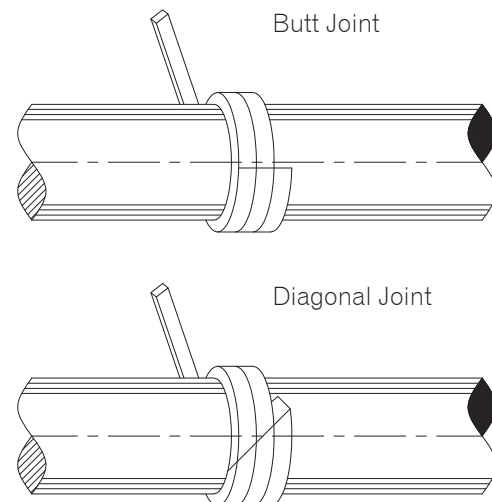

Fig. 9
3. When using coil or spiral packing always cut the packing into separate rings. Never wind a coil of packing into a stuffing box. Rings can either be cut with butt (square) joint or diagonal joints. (Fig. 9) The best way to cut packing is on a mandrel the same diameter as the